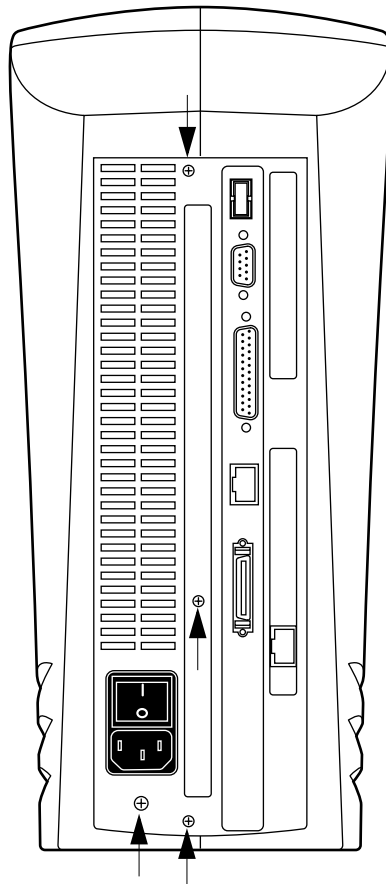

FIGURE 4-2 Opening the iR-M1
2. Remove the four screws on the back of the iR-M1 that secure the center frame (with motherboard and devices attached) to the chassis cover (see Figure 4-2).
6. Place the iR-M1 in its standard operating position. Secure the chassis cover to the center frame with the four screws previously removed (see Figure 4-2 on page 4-4).